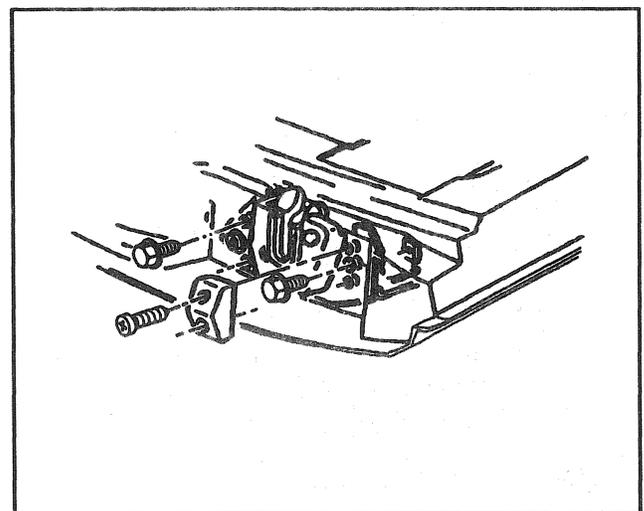

Figure 86—Rear Cargo Door Outside Handle and Lock Control Rods
**Remove or Disconnect (Figure 86)**
**Install or Connect (Figure 86)**